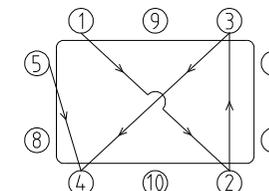

Fig 6
14. Tighten the clips in an order similar to fig. 6 to ensure the sink does not skew or rotate whilst it is being fixed. **Do not** use an electric screwdriver, this will over tighten the screws and could damage the clips.